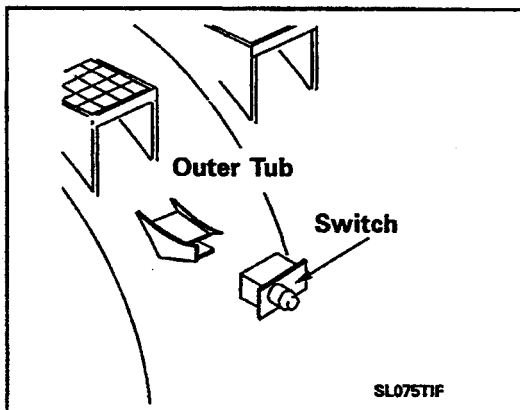

Figure 2-60
3. The switch is located on the upper right hand side of the outer tub assembly, directly behind the right upper front suspension spring (*Figure 2-60*).